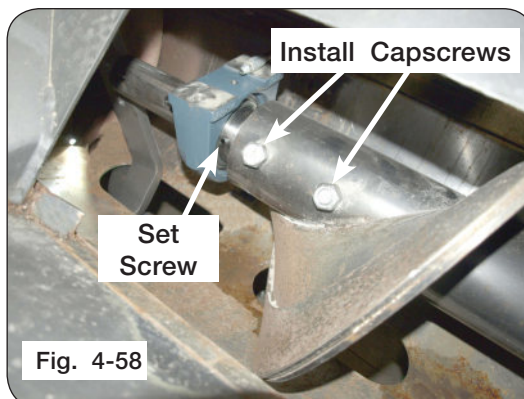

Fig. 4-58
NOTE: Make sure the set screws on bearing are towards the front of the cart. (Figure 4-58)
18. Slide bearing onto 5-pin driver. (Figure 4-58)
20. Install front capscrews, spacer bushings and locknuts 180 degrees from each other and assemble spacer bushings on threaded side of capscrews. Hand tighten hardware. (Figure 4-58)